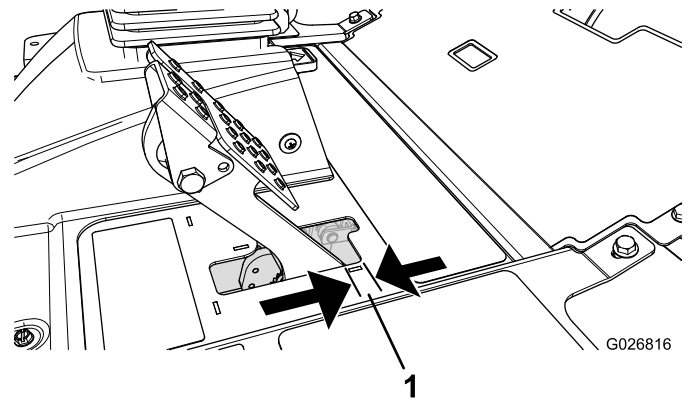

Figure 107
4. Lightly press the brake pedal; and measure the distance the pedal moves without resistance (Figure 107).
Note: Adjust the brakes if there is more than 2.5 cm (1 inch) of free travel (Figure 107) of the brake pedal, or if more parking-brake force is required.
6. Tighten the rear nuts to move the cable backward, until brake pedal has 6 to 13 mm (1/4 to 1/2 inch) of free travel (Figure 107), before the parking brake engages the wheels.